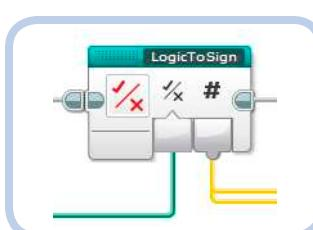

Figure 10-15: The resulting LogicToSign My Block, part of the Step My Block
4. Click **Finish** to create the My Block. Your finished My Block should look like Figure 10-15.